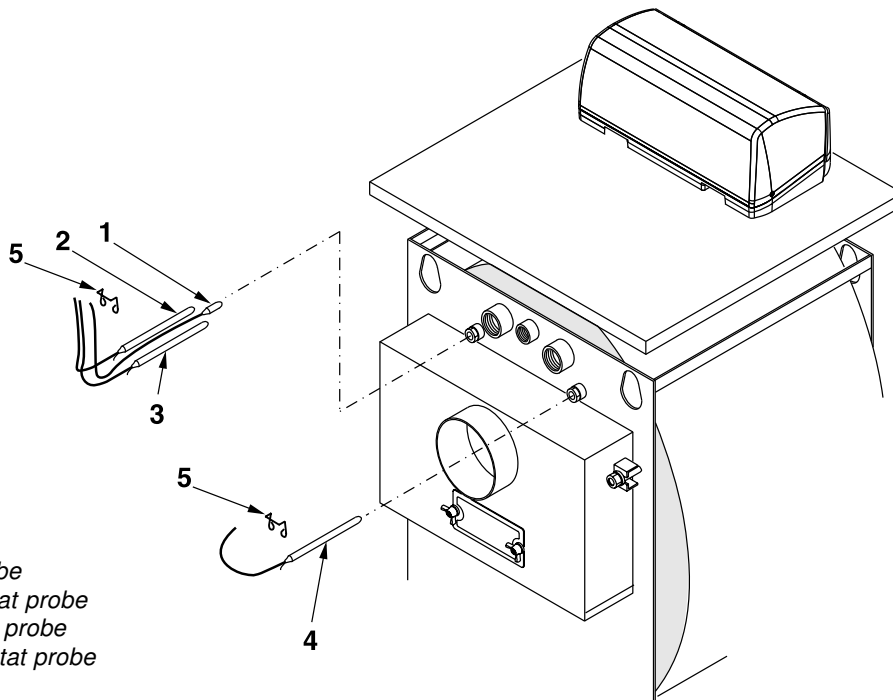

fig. 25
- F) Insert the bulbs of the instruments in the conduits as indicated in in fig. 25 and wire the panel board to the power line, to the burner and to any pumps, etc.